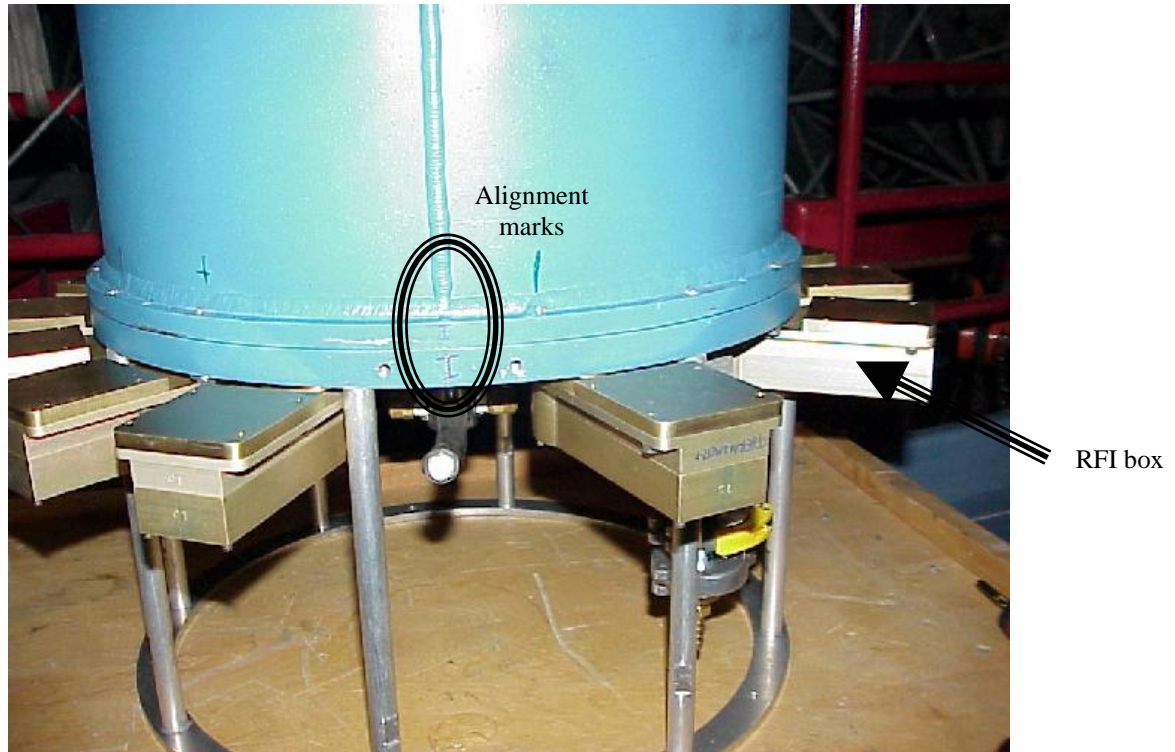

Figure 2. Alignment of vacuum shell and Dewar (red 'I' marks). This is the 'back' side of the Dewar, also called side 'A'.
4. **Install vacuum shell.** Clean O-ring surfaces (flat on Dewar, grooves on shell). Lift up vacuum shell with forklift or crane. Clean O-ring and apply moderate amount of vacuum grease (Dow-Corning) to make it stick in groove. Lower shell onto Dewar. The long vertical weld aligns with the mark on the side with the off-center LHe fill tube (Figure 2). Attach with eight ¼"-20 screws, which should be in large acrylic utility